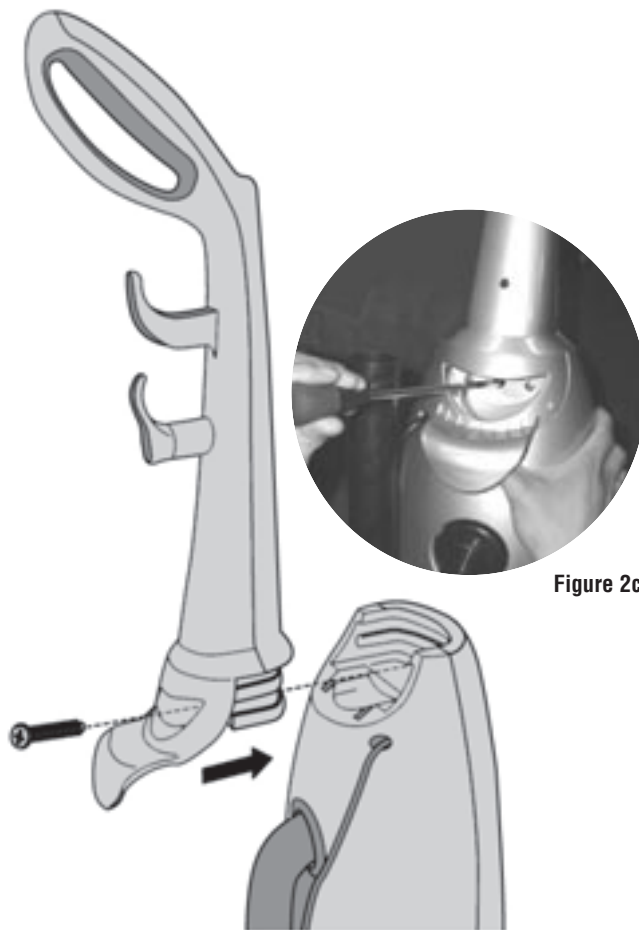

Figure 2b
4. The Upper Handle fits snugly in the Vacuum Cleaner Body's upper recessed area. Attach the Fitting Screw with the Phillips screwdriver. Tighten until secure. (See Figures 2b and 2c.)